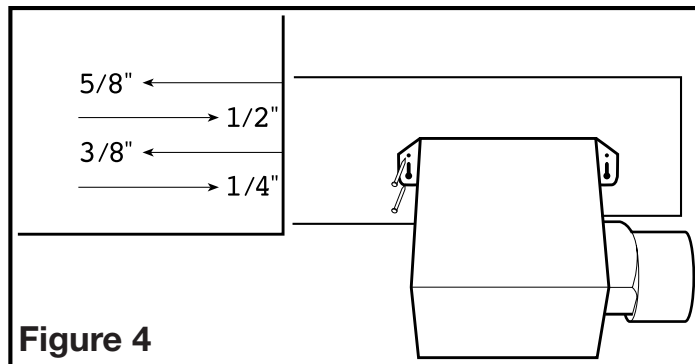
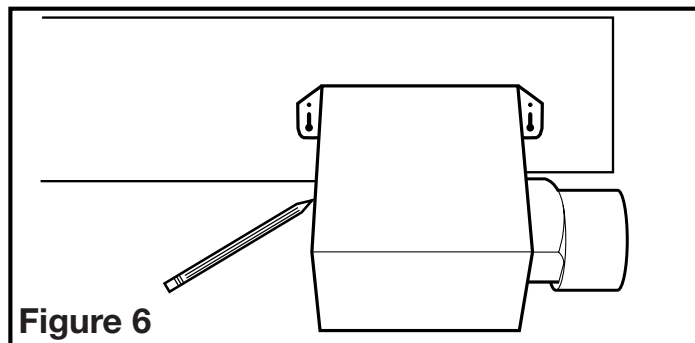

Figure 4
Figure 6
- 1b. **Mounting Tab Installation:** Using the gauge on the fan's housing, line up housing so that it will be flush with the finished ceiling. Position the fan so that the tabs rest flat against the joist and secure with four nails (not provided) to ensure proper installation (**Figure 4**).
- 1b. **Mounting Tab Installation:** Position housing against the joist and trace an outline of the housing onto the ceiling material (**Figure 6**). Set housing aside and cut opening, being careful not to cut or damage any electrical or other hidden utilities. Place housing next to the joist and insure that it is flush with the finished ceiling. Secure with four nails (not provided) to ensure proper installation (**Figure 4**).